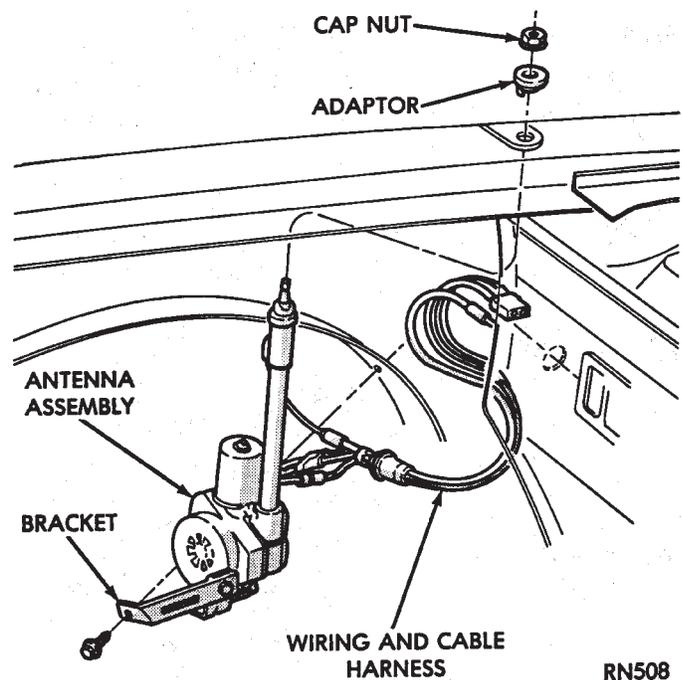

Fig. 19 Power Antenna Mounting
- Remove one screw attaching antenna to antenna brace (Fig. 19).